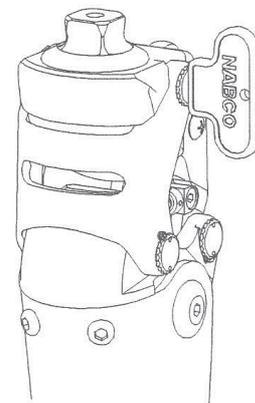

Fig.5
3. Using a specialized tool for tightening the toothed bolts, tighten the toothed bolt A by single thread, then confirm the degree of looseness. If the looseness still present, apply further tightening. However, be aware that an over-tightening will cause an increased resistance to bending and extending motion. (See Fig.5)